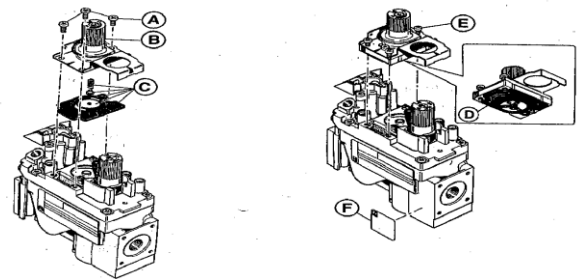

Figure 4 – Valve Conversion Kit
5. Install the enclosed identification label (F) to the valve body where it can be easily seen (Figure 4). Place the red LP sticker over the white NG sticker on the valve door.